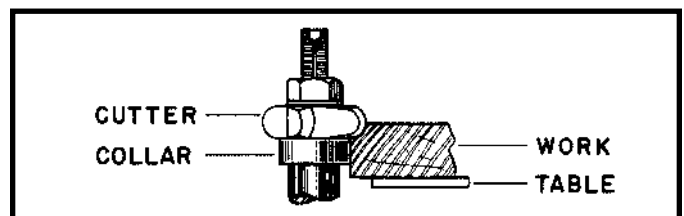

Fig. 67
2. When the collar is used below the cutter (Fig. 67), the operator can see the progress of the cut. **NOTE:** Any accidental lifting of the work will gouge the wood and ruin the workpiece.